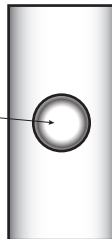

Figure 1
- 2 Press and release doorbell button on the sensor until the panel responds (see Figure 1).